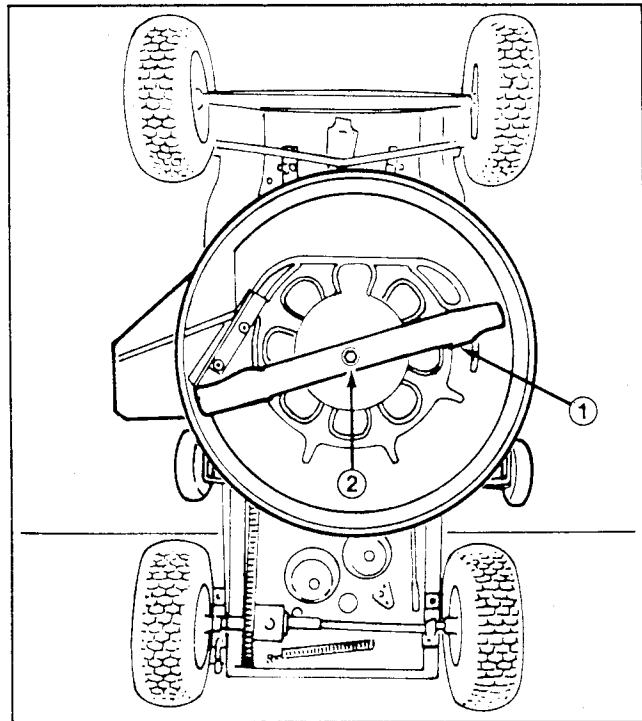

Figure 15
6. Grasp the end of the blade using a cloth or a thickly padded glove. Then remove the blade bolt, washer, and blade (Fig. 15).
9. In sequence, reinstall the blade, washer, and blade bolt (Fig. 15). Tighten the blade bolt to 45-60 ft/lb (61-81 Nm).
6. Remove the grass clippings and dirt that are sticking to the inside of the housing (Fig. 15) by spraying it with a garden hose. Scrape out any grass and dirt that the water does not remove from the housing, then spray the housing again.
7. Since the rider is tipped on end, check the condition of the blade (Fig. 15).